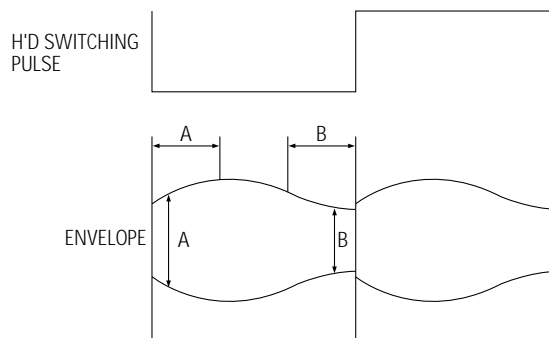

Fig. 5-10 Adjustment Points
- 4) If the section A in Fig. 5-10 does not meet the specification, adjust the guide roller S up or down.
- 5) If the section B in Fig. 5-10 does not meet the specification, adjust the guide roller T up or down.